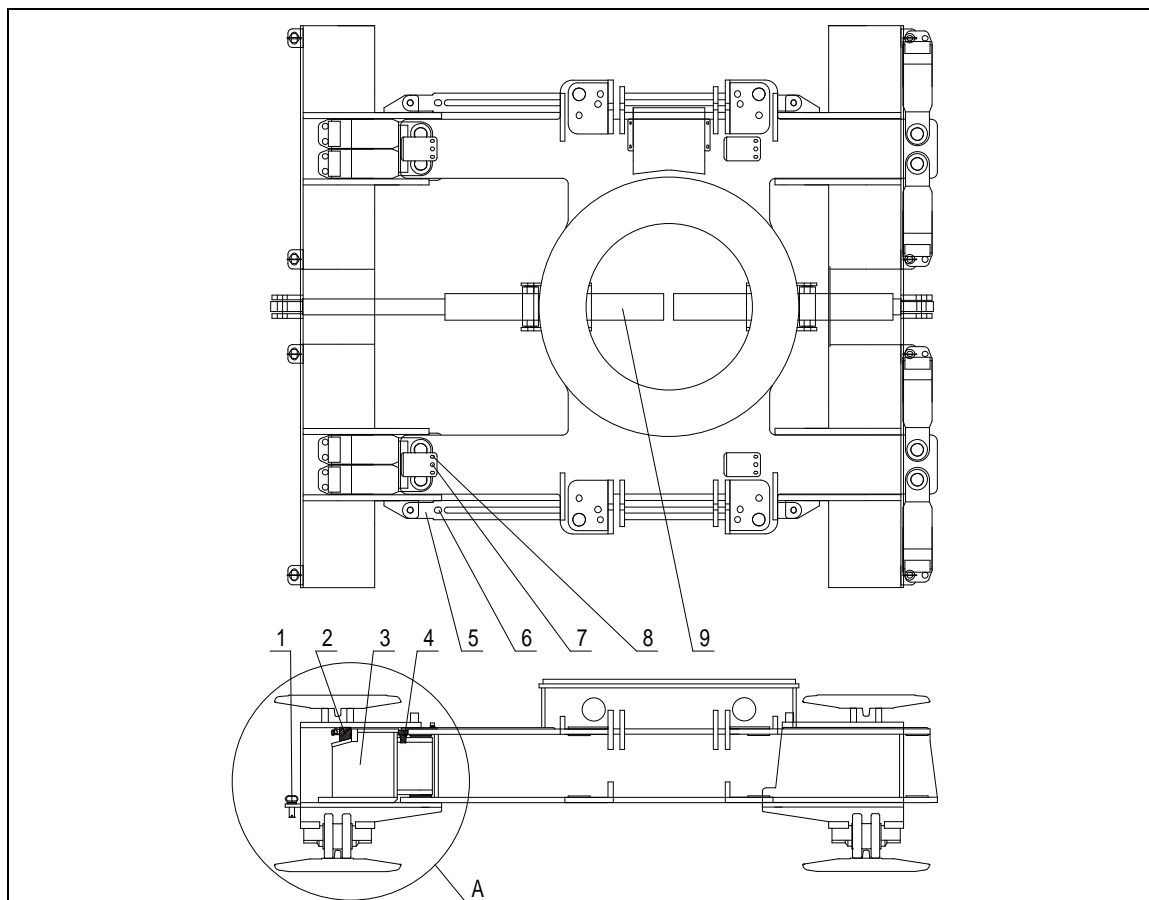
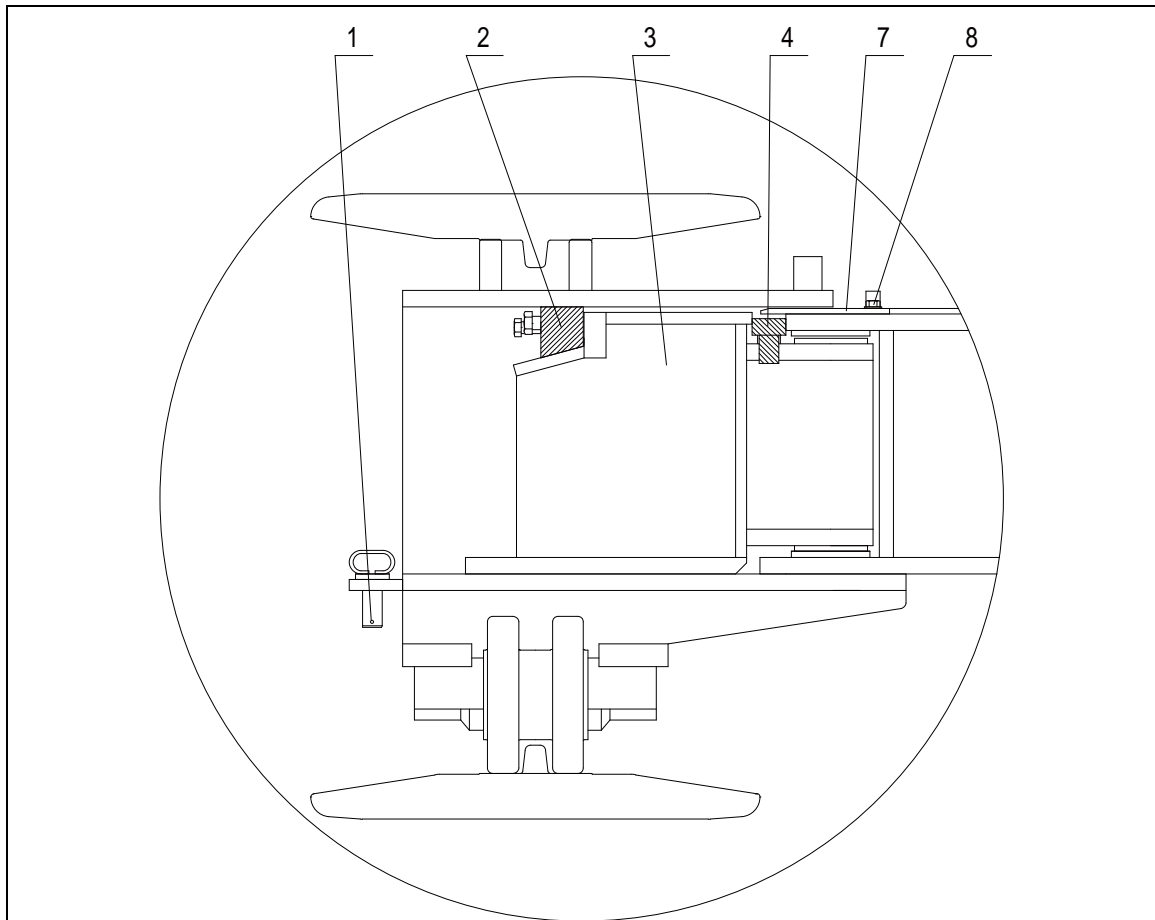

Figure 5-17 Crawler carrier extending & retracting mechanism
Figure 5-18 Enlarged view of crawler carrier extending & retracting mechanism
- Affirm that four pairs of folding brackets have been positioned by retaining plates (part 4 in the figure 5-17), and the adjusting blocks on the folding brackets have been removed to the lowest position. Otherwise, it will be difficult to assemble the crawler carrier.
Crawler carrier extending & retracting mechanism consists of folding brackets, horizontal cylinder, crawler carrier, anchoring rods, pin spindles and so on. Refer to figure 5-17, figure 5-18 and table 5-3.